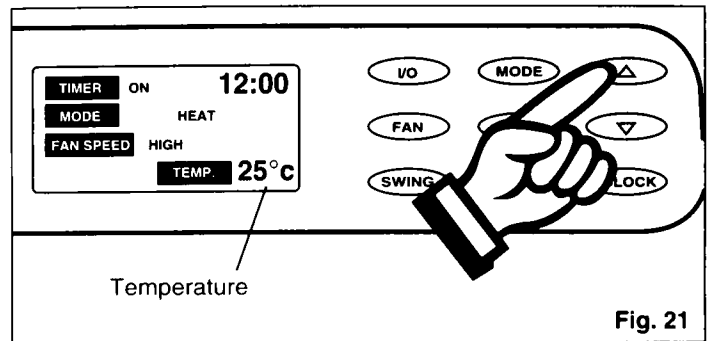

Fig. 21
- 2) Press the appropriate Δ or ∇ key to select a suitable temperature between 62°F to 88°F. *Fig. 21*.